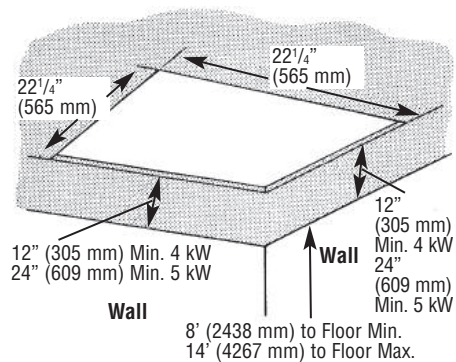

Figure 5
Installation of Recess Mounted Heaters in Permanent Ceiling (See Figures 5, 6, 7 and 8)
2. Cut a 22 $\frac{1}{4}$ " x 22 $\frac{1}{4}$ " (565 mm x 565 mm) mounting hole in the ceiling for the recess mounting box (Figure 5).
3. Remove Recess Mounted Heater assembly from carton. Heater assembly includes (1) recess mounting box, (1) heater, (1) recess mount face plate and (1) set of discharge grilles.